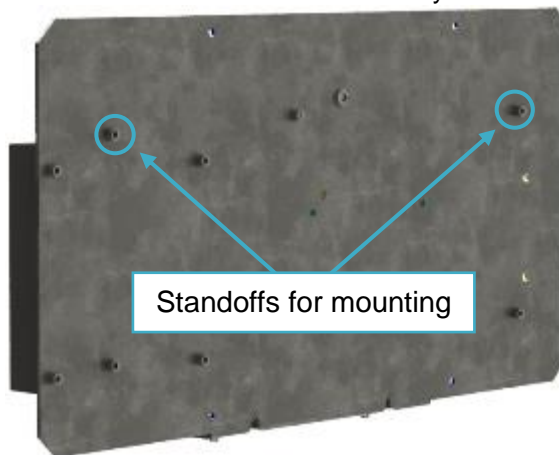
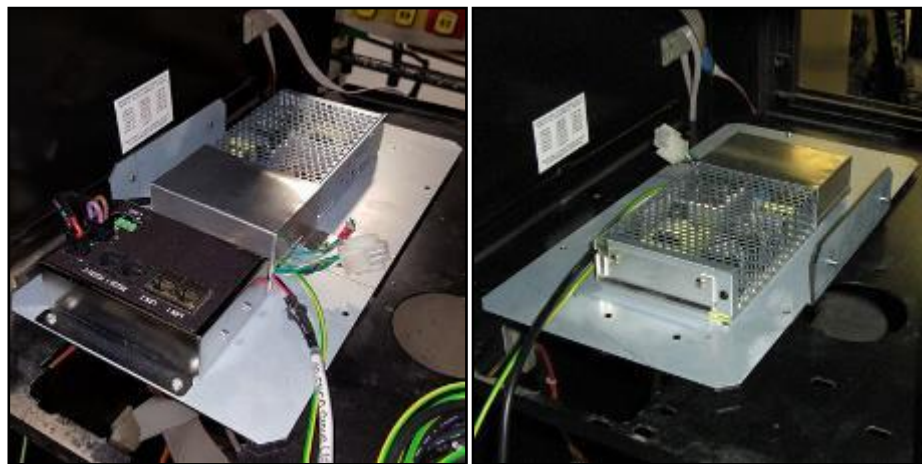

Fig. 3.1a – Standoff positions to align with dispenser
Fig. 3.1b – Side One
- b. Place the plate into the cavity as shown (Fig. 3.1b), and align the two standoffs (Fig. 3.1a) with the holes in the floor of the cavity: